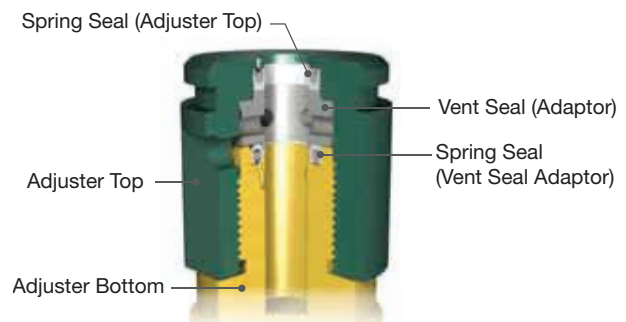

Figure 29: Adjuster Top Assembly (49MV22/72)
- (ix) Inspect Adjuster Top to make sure that Spring Seal (Adjuster Top) did not flare out during installation and that the Spring Seal (Adjuster Top) is oriented as shown in Figure 29.
- c. Install the Spring Seal (Adjuster Bottom) onto the Adjuster Bottom with spring side down as shown in Figure 29.